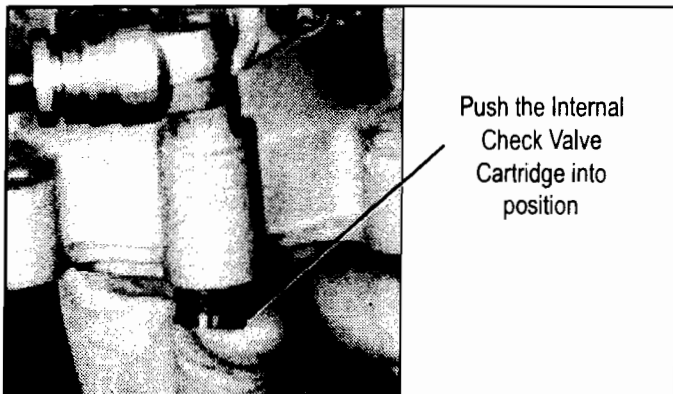
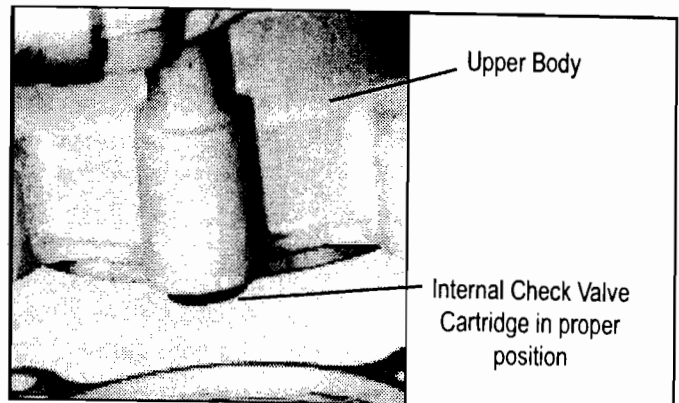

Figure 7 - CARTRIDGE INSTALLATION
Figure 8 - PROPER CARTRIDGE INSTALLATION
1. Insert the replacement cartridge in the bore where the check valve, spring and plastic guide were removed. Note: Be sure to remove the replacement cartridge from its shipping tube prior to installation. Push the cartridge into position until it stops as shown in Figure 7. A portion of the plastic guide in the cartridge will stick out as shown in Figure 8. **DO NOT FORCE THE CARTRIDGE FURTHER INTO THE BORE.**